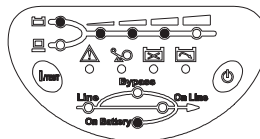

Fig 4-4 On-Battery Mode
- ✓ ON-BATTERY mode: When the UPS is in 【ON-BATTERY mode】 , the on- battery LED will light on, buzzer beep half second every 2 seconds and then the UPS will start supplying power to load through batteries. Shown as fig 4-4.